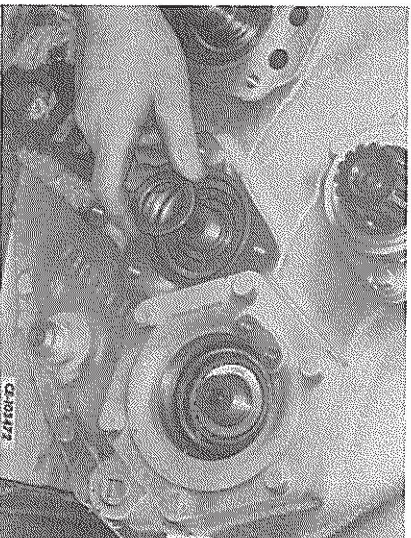

FIG. 23 — Removing the Spline Shaft Front Bearing Plate
14. Remove the spline shaft front bearing plate. This plate is part of the bearing and is not serviced separately (Fig. 23).